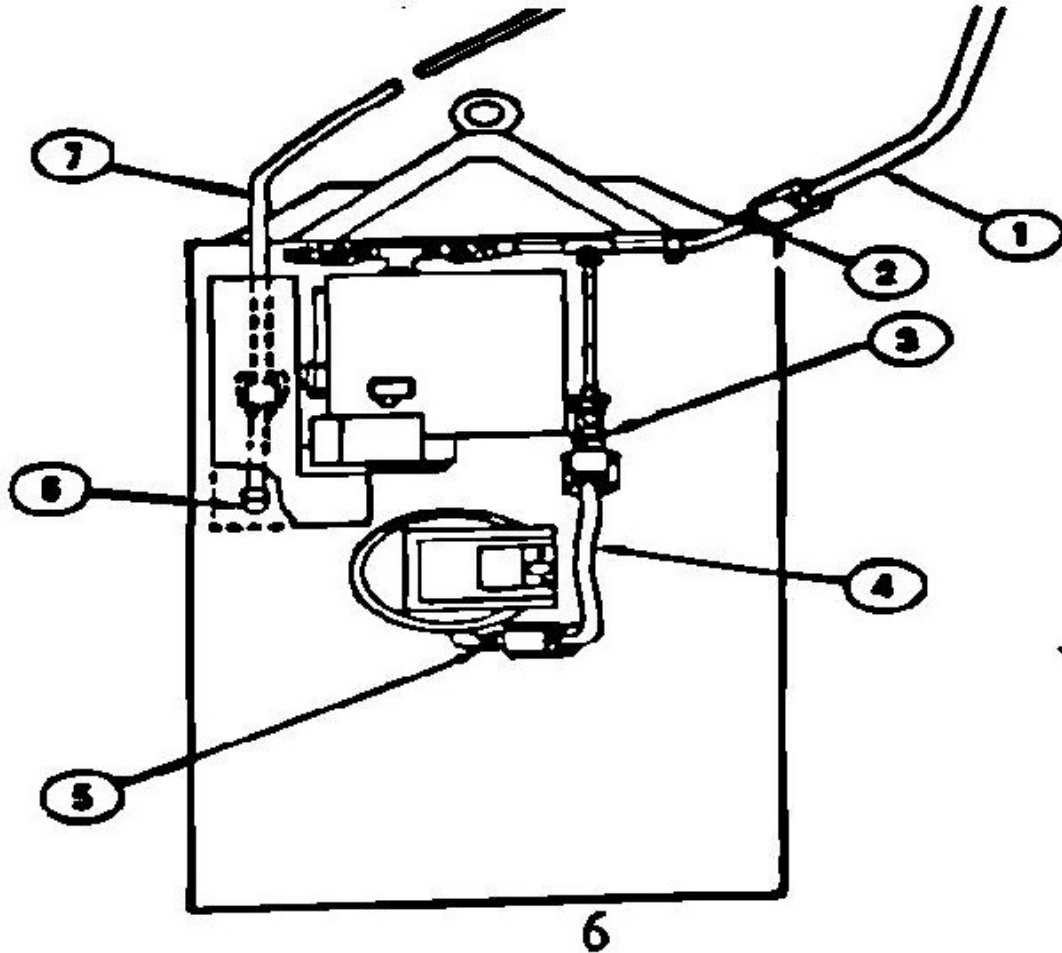
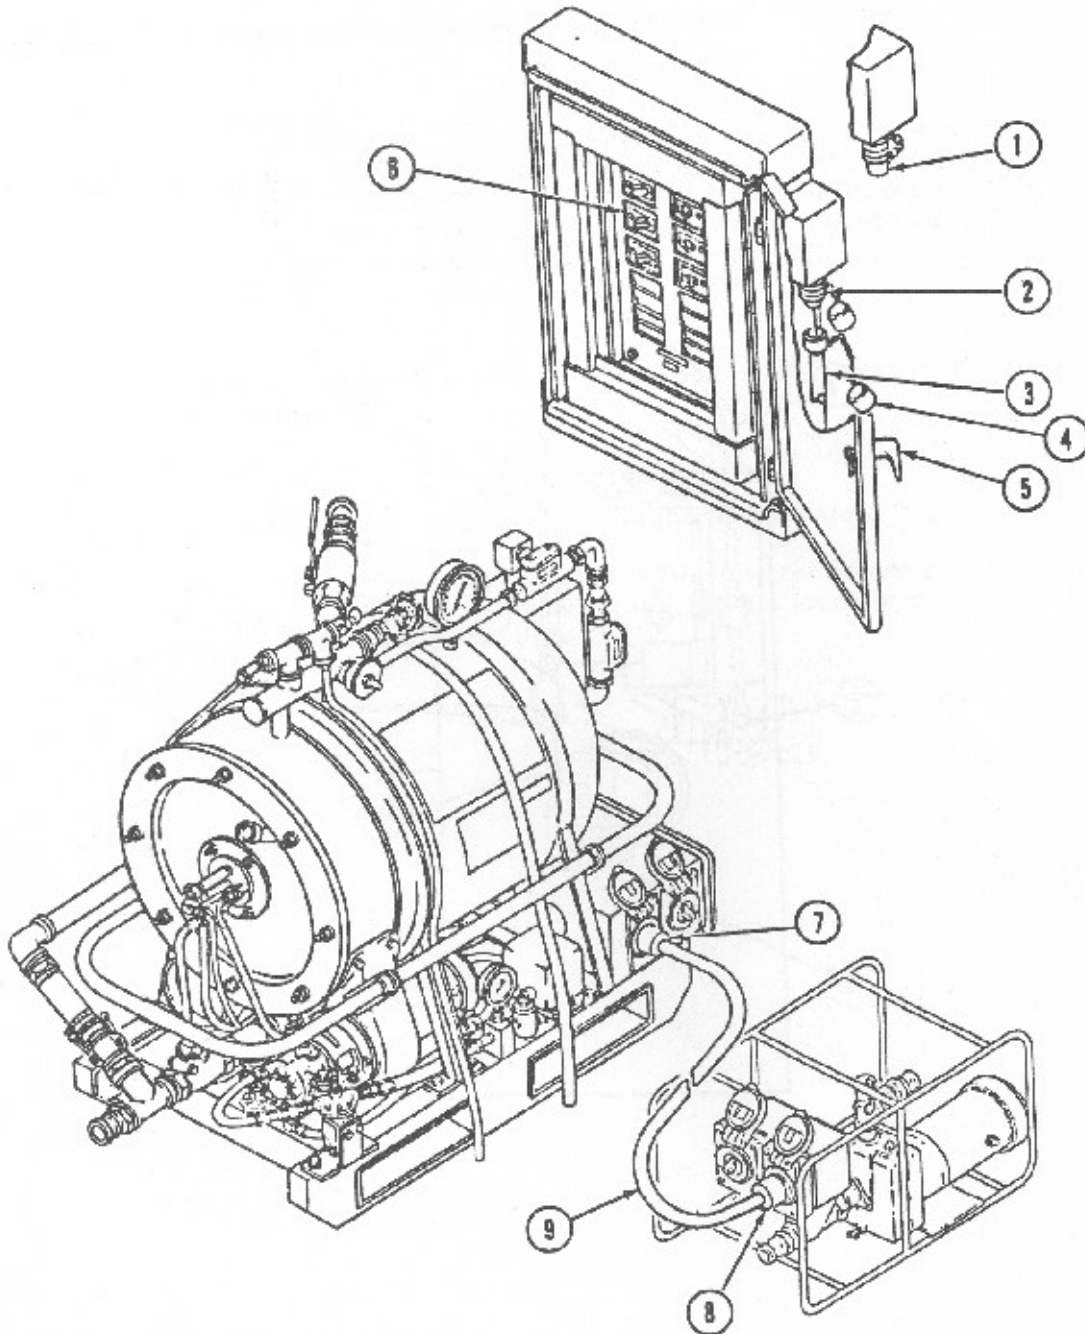
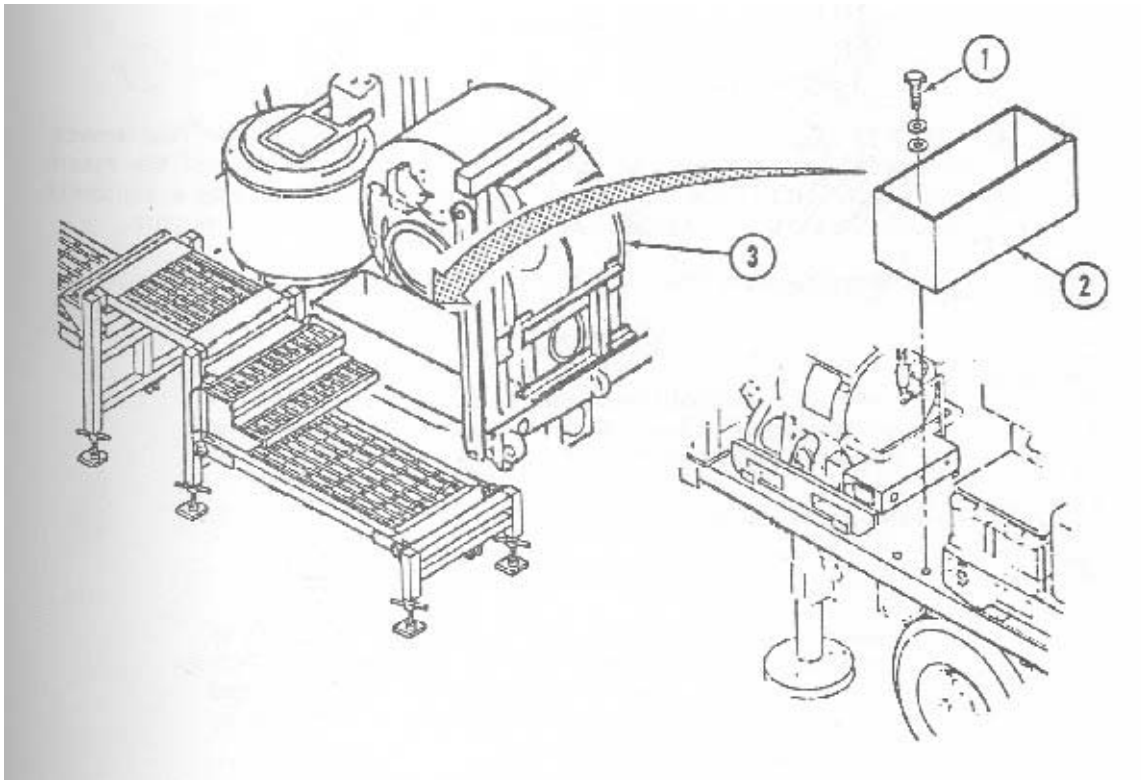

Figure 3-20
Figure 3-21
Figure 3-22
- n. Ensure that drain hose (4) is connected to extractor drain connection (5) and washer drain connection (3). (See Figure 3-20)
- o. Connect one 25-foot (7.6 m), 1 1/2-inch diameter drain hose (7) to washer drain and route the hose to a drain field.
- p. Connect one 25-foot (7.6 m), 1 1/2-inch diameter drain hose (1) to pre-extraction bin drain and route the hose to a drain field.
6. Install the electric power cables. (See Figure 3-21)
f. Ensure water heater load limit switch is in the OFF position. (See Figure 3-21)
b. Remove dryer bin (2) and place it in front of dryer assembly (3).
c. Install bolts and washers (1) removed in the same location from which they were removed. (See Figure 3-22)